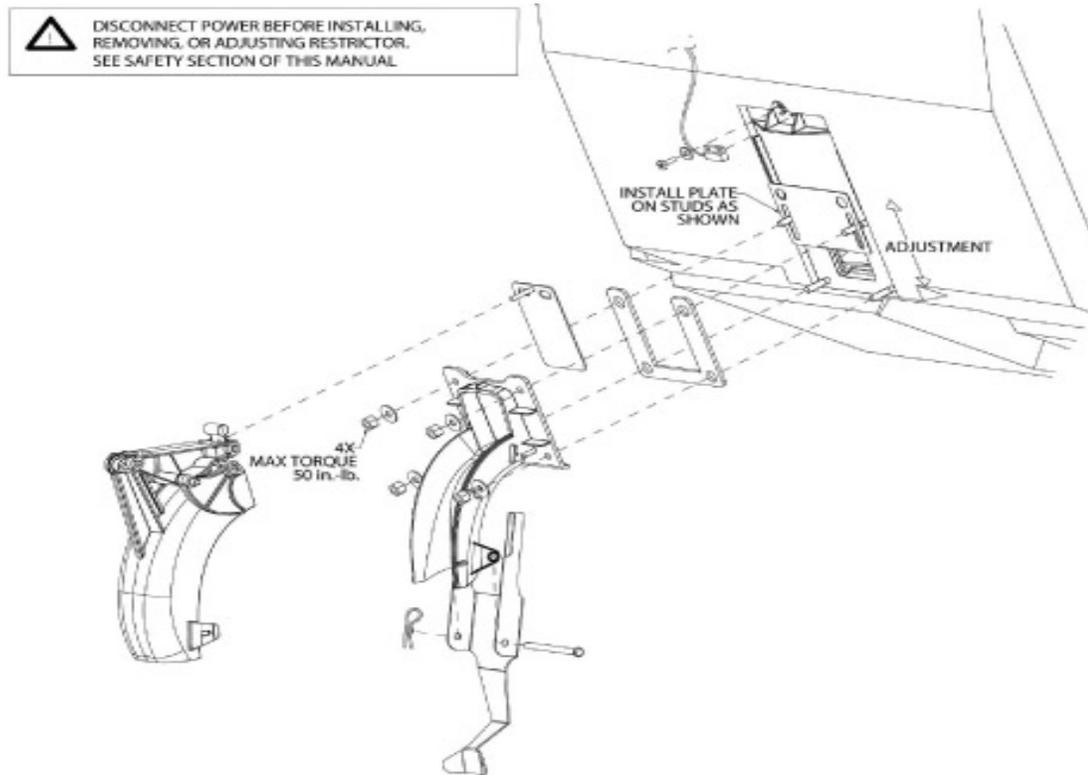

Figure 1. Gate Restrictor Plate
The rate at which ice is dispensed can be adjusted by varying the opening of the gate restrictor plate as illustrated in Figure 1. Reducing the dispense rate of ice is especially desirable when using glasses or other containers with small openings. To adjust the gate restrictor plate, loosen the (4) nuts that hold the ice chute assembly to the bin. The restrictor plate can now be moved up or down. When the restrictor plate is fully up, the ice gate opening is 2-1/2" in height, and the maximum rate of ice dispense is available (approximately 3 oz/sec). Retighten the (4) nuts to set the desired restrictor plate opening. **DO NOT EXCEED 40 IN-LB** of torque.